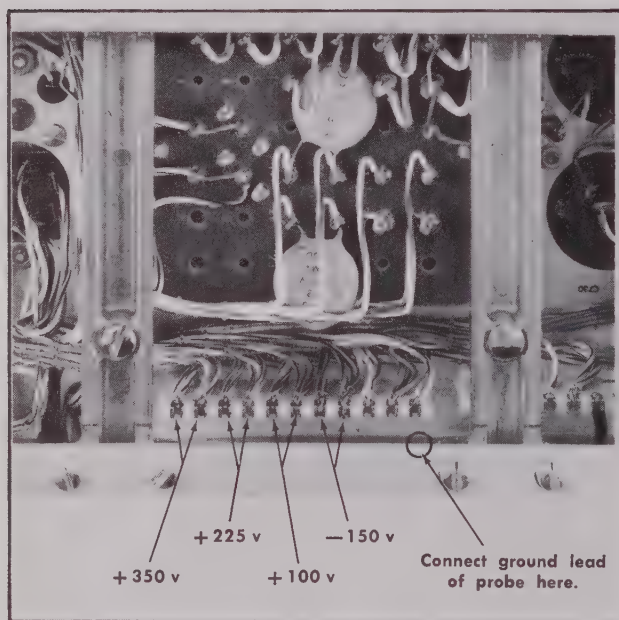

Fig. 5-1. Low-voltage power-supply test point locations.
5. Using the VOM, check the resistance at the regulated bus of each power-supply lead to ground at the test points shown in Fig. 5-1. The values of resistance should be approximately as indicated in Table 5-1, once the capacitors are charged by the VOM internal battery.
- b. Check the voltage accuracy of each power supply output using the VOM (item 4) according to the information given in Table 5-3. The location of the test points is shown in Fig. 5-1.
- a. Monitor the regulated output of the —150-volt supply with the VOM. The test point location is shown in Fig. 5-1.
- b. Connect a 1X probe from a test oscilloscope (item 1) to the —150-volt test point and check the output ripple amplitude. The maximum ripple voltage is given in Table 5-3.
Ground loops can cause an erroneous ripple measurement. (Ripple due to ground loops is the same frequency as the line; low-voltage power supply ripple is twice the line rate.) One way to avoid ripple due to ground loops is to temporarily disconnect the chassis ground wire in the power cord by using an ungrounded 3-to-2 wire line-plug adapter. Then use a ground lead from the signal probe to make a ground connection to the oscilloscope chassis at the location shown in Fig. 5-1. The probe will then provide the only ground connection between the two instruments. The "test oscilloscope" is item 1 while the term "oscilloscope" or "instrument" refers to the oscilloscope being calibrated.